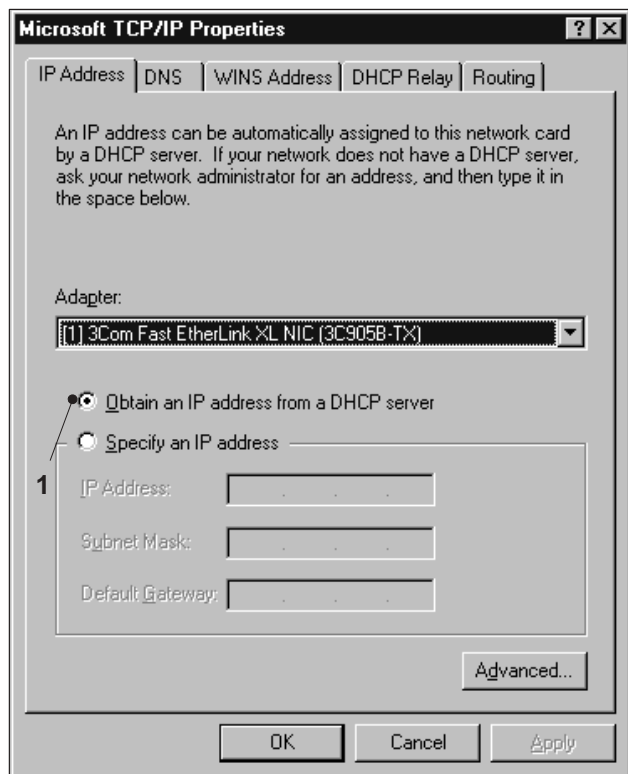

Fig. 14 TCP/IP Properties
- 11 Click on the circle in front of the line "Obtain an IP address from a DHCP Server" (Fig. 14/1).